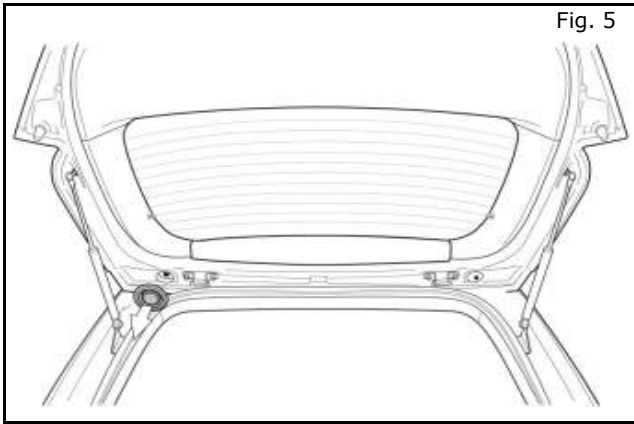

Fig. 5
- i) Open the liftgate and remove the driver side grommet plug shown in Figure 5.